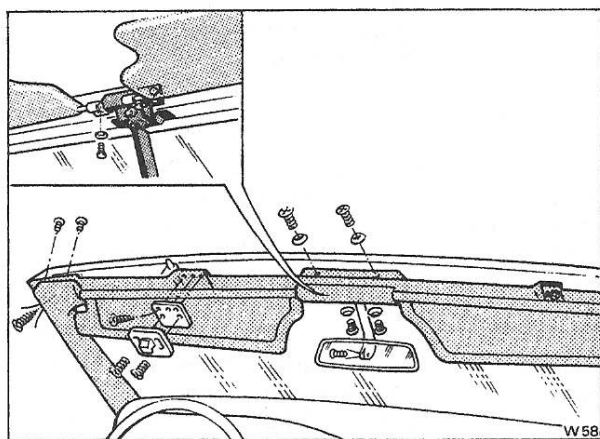

Fig. S139 Windscreen interior trim (Corniche Convertible)
5. Release the two screws retaining the top of each 'A' post trim cover to the windscreen top rail (see Fig. S139); slide the trim covers upwards and remove.
6. Release the two Pozidriv screws securing the front section of each hood catch plate (see Fig. S139); remove the plates.
7. Release the three screws securing the rear section of each catch plate (see Fig. S139); remove the plates.
10. Remove the nut and bolt securing each sun visor inner retaining bracket from the mirror stem and mounting assembly (see Fig. S139); slide the sun visors inwards and remove.